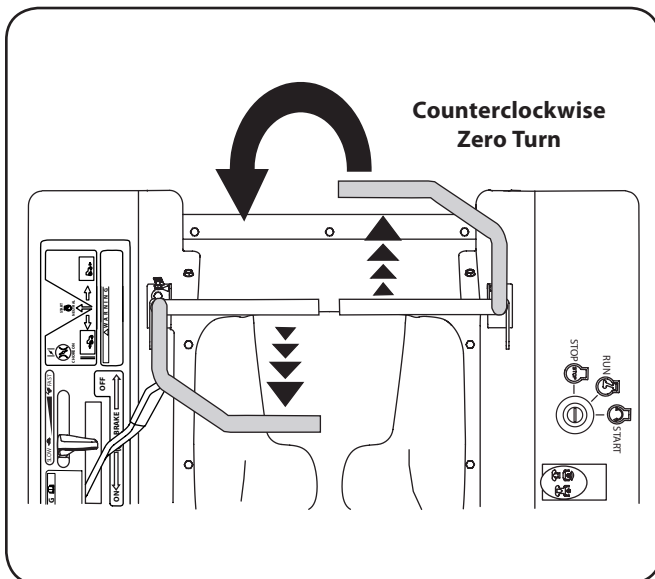

Figure 1-9
3. To turn counterclockwise, move the right control lever forward while simultaneously moving the left control lever rearward. See Figure 1-9.